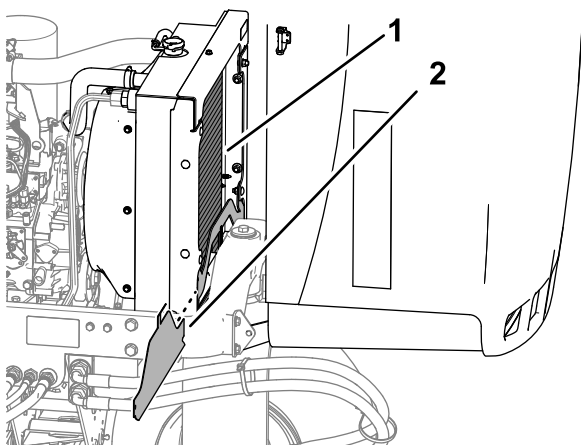

Figure 76
4. Remove the lower radiator shield (Figure 76).
5. Clean both sides of the radiator area thoroughly with water or compressed air (Figure 76).